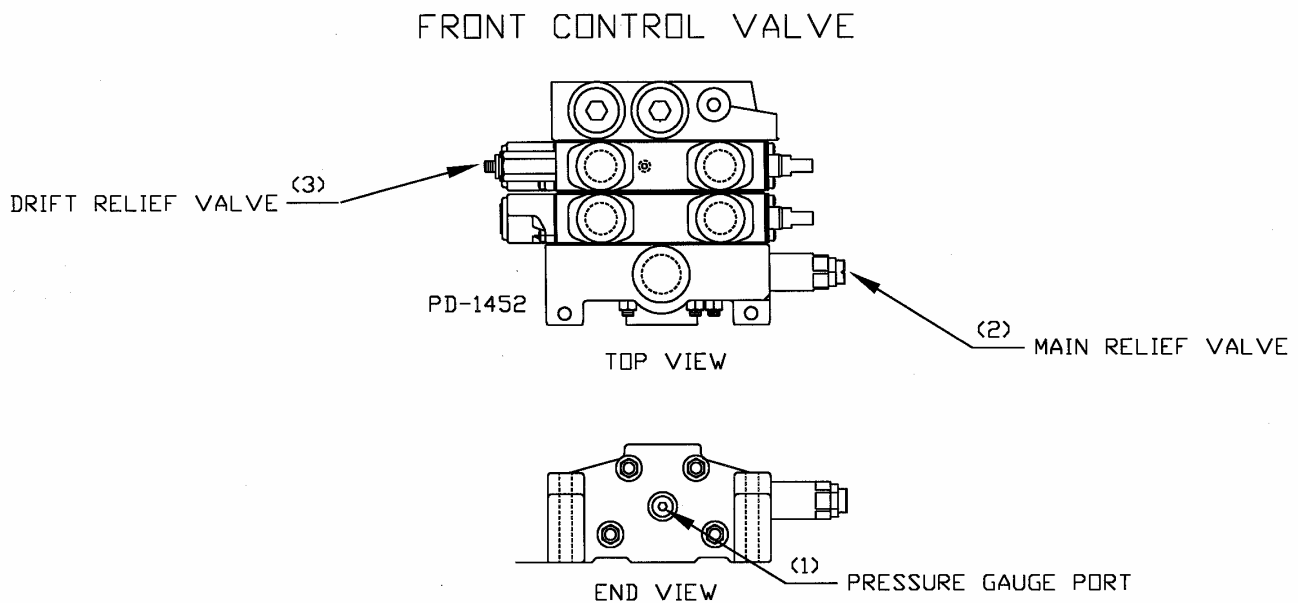

FIGURE PS1
- 2) Install a 0-3000 P.S.I. fluid filled pressure gauge in the pump line at the front control valve, located on streetside on top of hydraulic tank. (Figure PS1 - Item 1).
- 3) Lower main relief valve setting (Figure PS1 - Item 2) to 800 P.S.I. Do this by holding the ejector in full retract with throttle advance on.